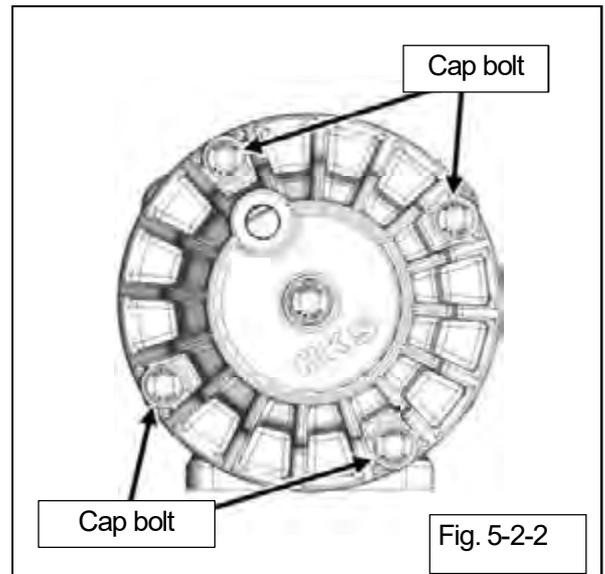

Fig. 5-2-2
- (2) Remove four cap bolts. (Fig.5-2-2)
- (3) Slowly loosen the press holding the wastegate and remove the spring from the wastegate while being carefully not to let the spring fly out.
- (4) Replace the spring, and reassemble the wastegate by a reverse procedure.